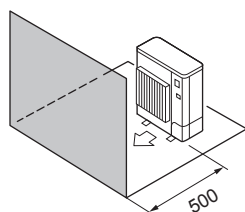

Fig. 3-9
- ④ Obstacles at front only (Fig. 3-9)